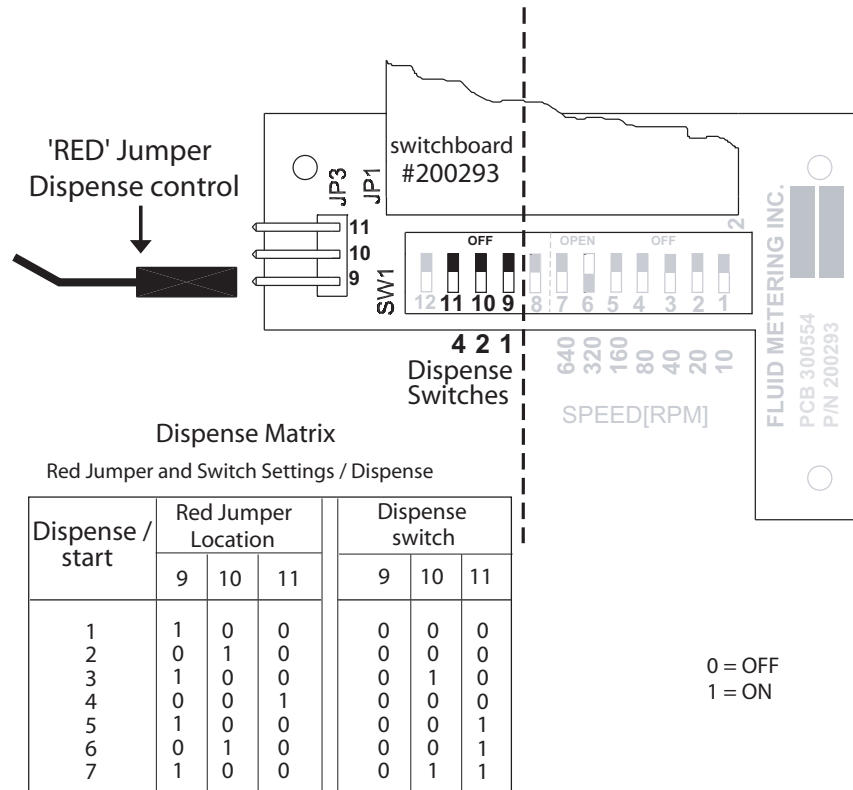

Fig 2A
*.You can, have up to seven shots per signal if desired. The number of shots per Start signal is set by switches 9, 10, 11 and Red Jumper on Switchboard # 200293. See Matrix below (Figure 2A) ** (FMI has determined that 350 RPM is best speed for a single revolution dispense, this may vary depending on the hydraulics of your system.)